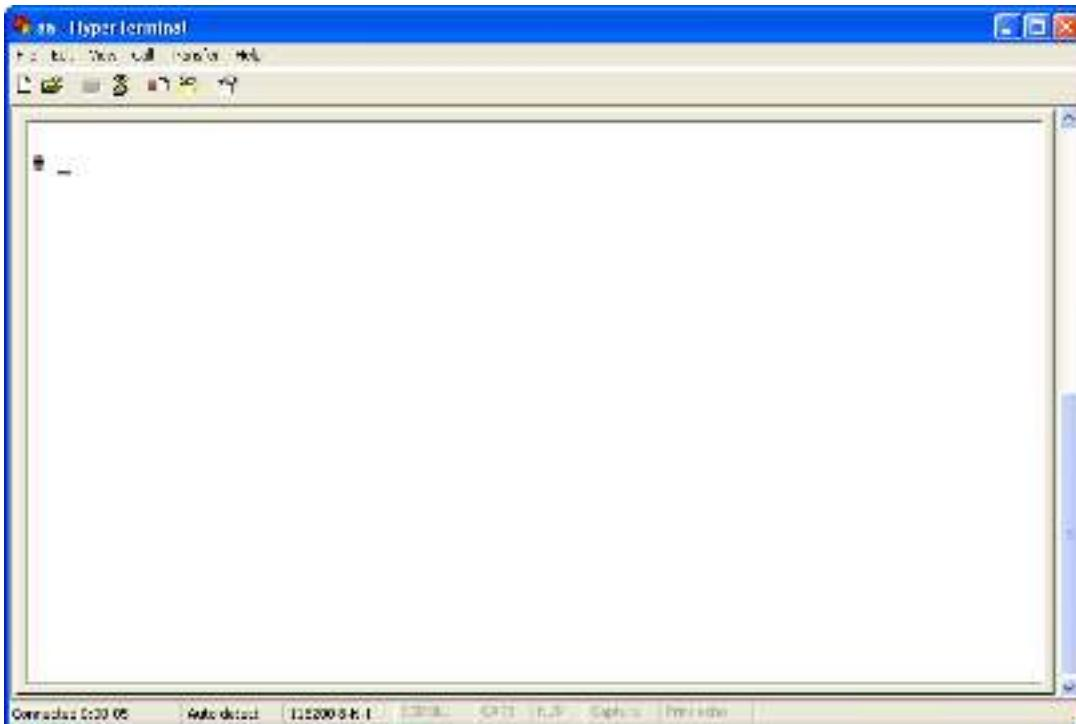

Fig. 3.4 Hyper Terminal Interface
Step 4: Serial port parameters setup. Set the serial port parameters as the following setup: Bits per second: 115200, Data bits: 8, Parity: None, Stop bits: 1, Flow control: None. Press “OK” after finish, the Hyper Terminal interface like Fig. 3.4 will appear
Step 1: Enter into the Hyper Terminal. Click “Start”→“Programs”→“Accessories”→“Communications”→“Hyper Terminal”→“aa.ht”, the Hyper Terminal interface in Fig. 3.4 will appear.